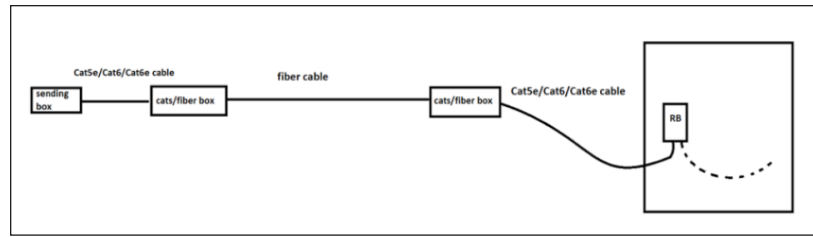

Figure 29: Cat6/fiber Converter Routing
5. Two CAT5/fiber box can change Cat6 cable to fiber cable and then change back. The Cat6 cable can then connect to the RC of the first cabinet. Use additional Cat6 cables to connect to the next RC. Refer to **Figure 29**.